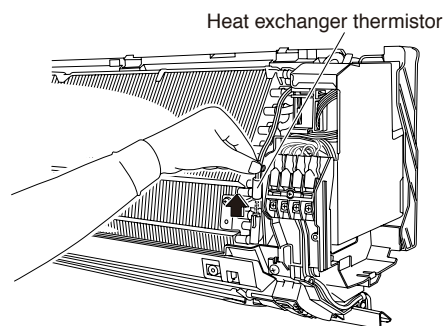

Fig. 20
- (3) Remove temperature sensor. (Fig.20)